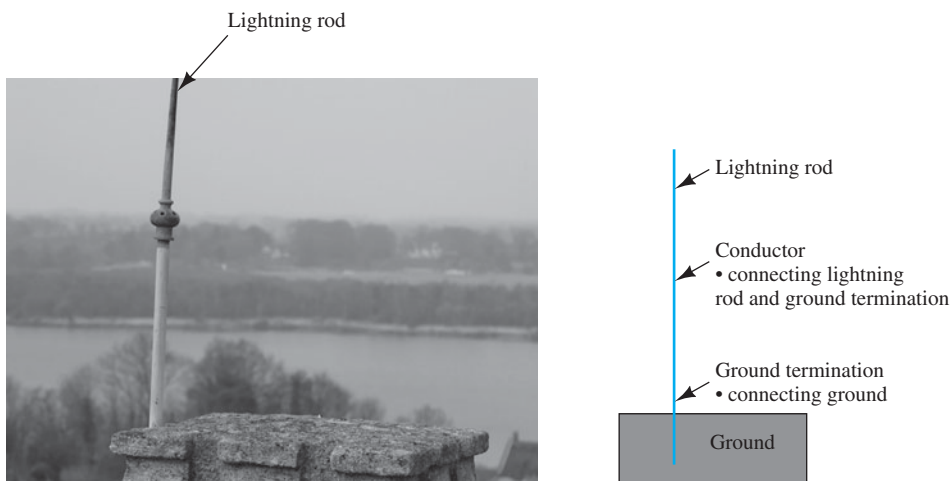

FIGURE P15.12 Building with a lightning rod and the basic structure of it. (Used with permission from © Michael Hawkridge/Alamy.)
- 15.12** (B) Why can a lightning rod installed on the top of a building protect the building from lightning strikes (see Figure P15.12)?